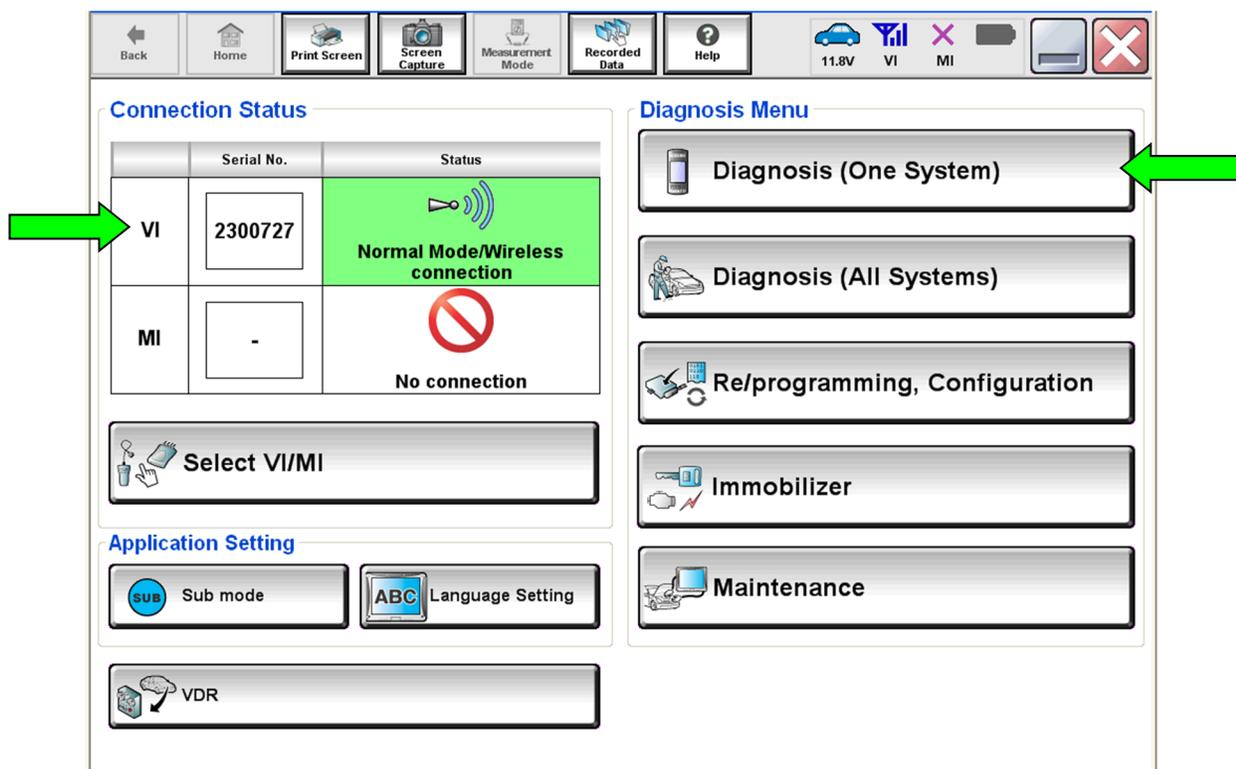

Figure 7
15. Return to the C-III plus Home screen (see Figure 7).